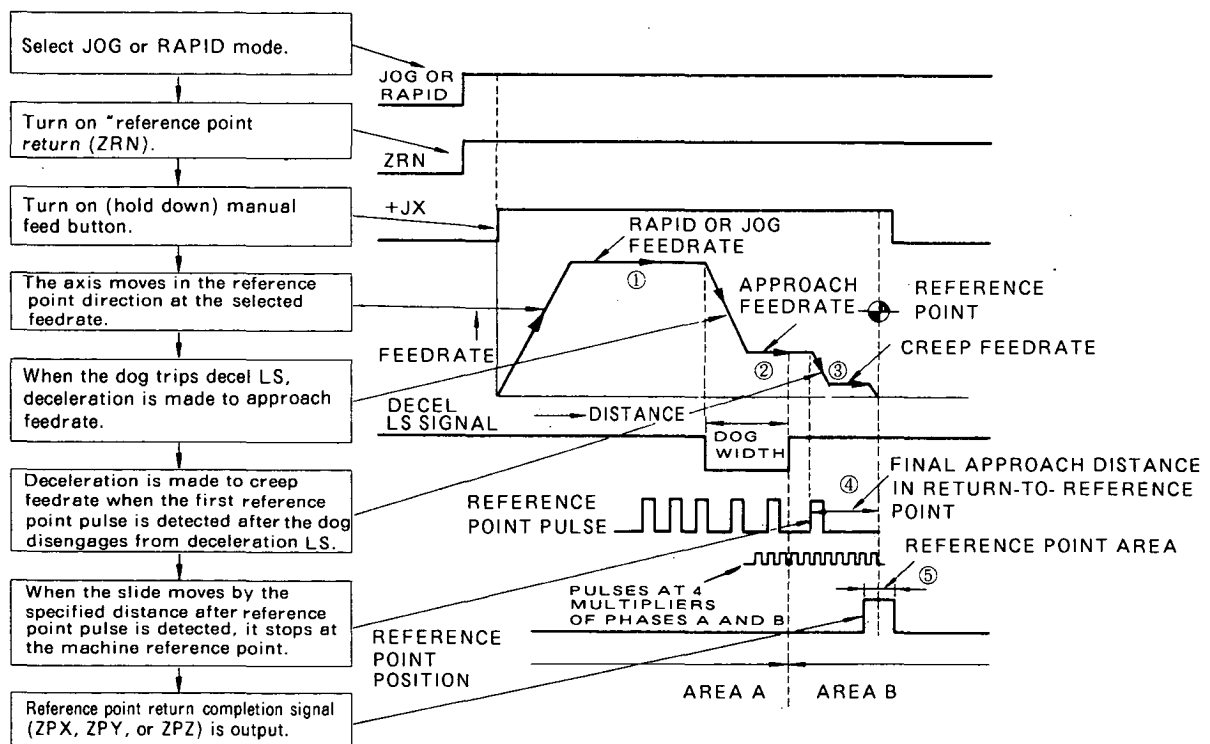

Fig. 3.3 Return-to-Reference Point Motion
1. The return-to-reference motion takes place in principle, regardless of the position of the machine slide when the power supply is turned on again. However, when the slide is in area B (see Fig. 3.3), it cannot return correctly. In this case, as overrun may occur, it must be moved into area A before starting the return motion.